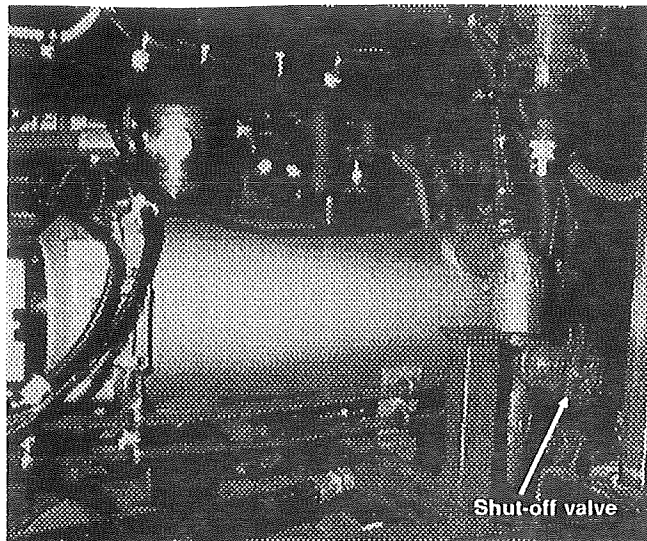

FIG. 6
2. Close shut-off valve located in the engine compartment in front of the pre-heating system right under the fuel filter/water separator (see fig. 6).